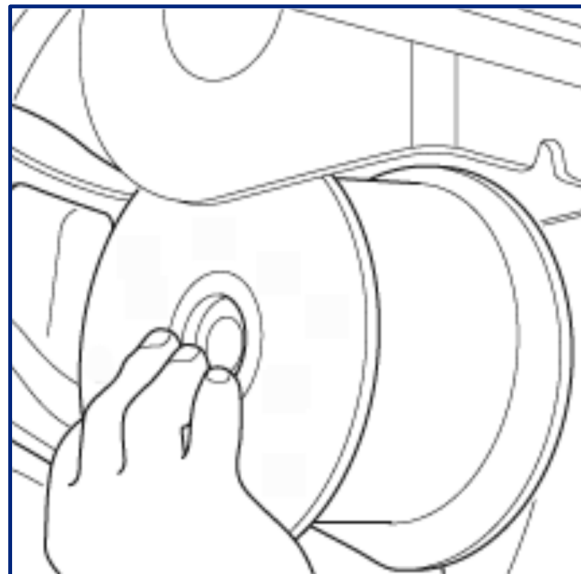

Fig 30
11. Refit the trailing arm to the hanger bracket (Fig 30) and insert new pivot bolts.